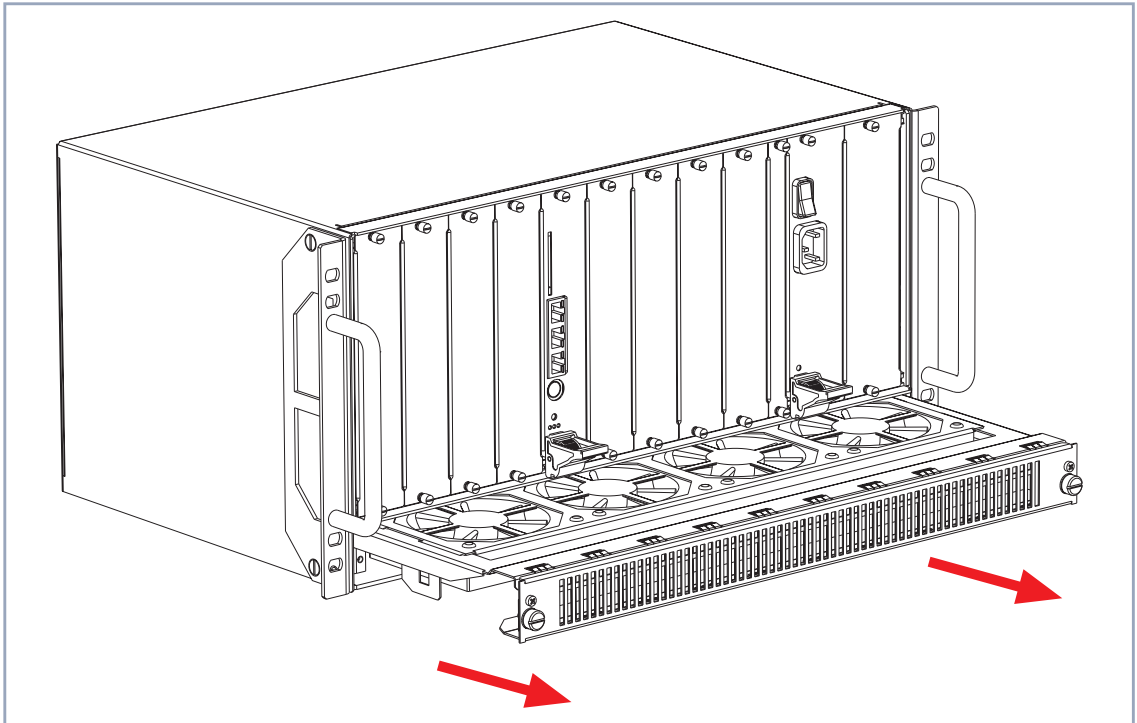

Figure 4-11: Drawing out the fan cassette from the **X8500** case
- Remove the fan cassette from the **X8500** case (see figure 4-11, page 49).
- Draw out the fan cassette from the **X8500** case, as shown in figure 4-11, page 49.